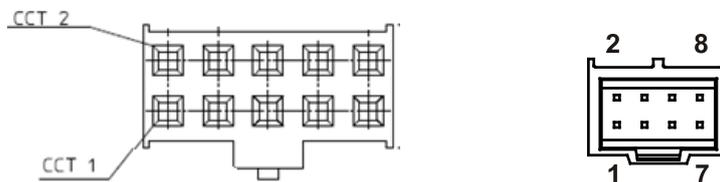

Figure 4: Molex vs Elmo Technical Diagram Examples Showing Pinout Numbers
It should be noted that in all Elmo manuals the pinouts are shown differently to Molex’s technical sheets. Molex shows pin 1 at the bottom-left when looking at the face of the cable-side connector, tab down (Figure 4).
- a. At the drive, connect the feedback drain wire to one of the COMRET terminals in the Molex feedback connector (Figure 4).